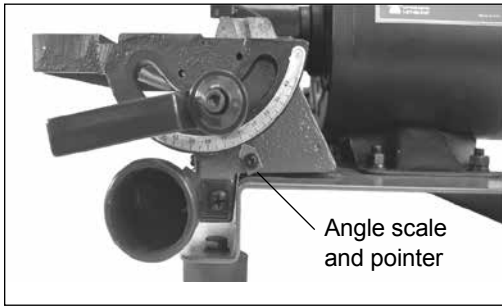

Figure 11
23. Attach the Angle Scale Pointer (#16) to the sanding disc frame with the M4 Phillips pan head Screw (#14). The pre-drilled hole is located just below the angle gauge. As shown above in figure 11.